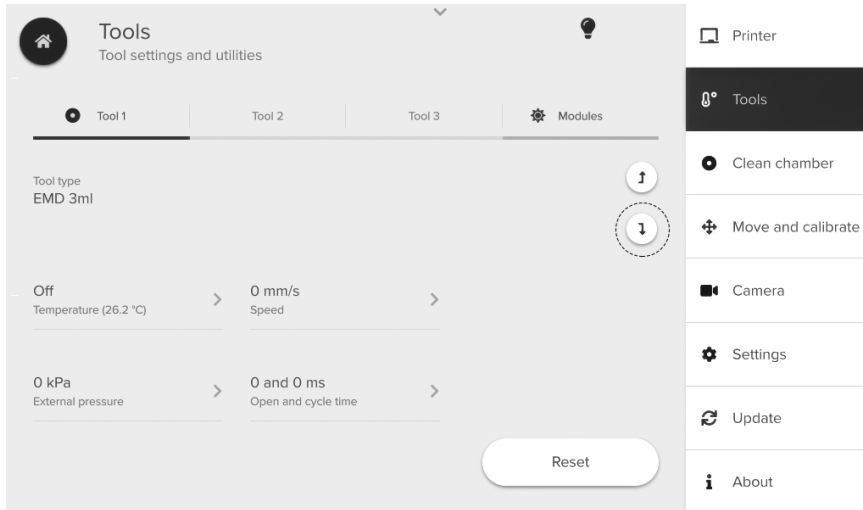

Figure 5: Lowering the printhead into the active position.
3. Lower the desired printhead mount into the active or loading position by pressing the down arrow (Figure 5).